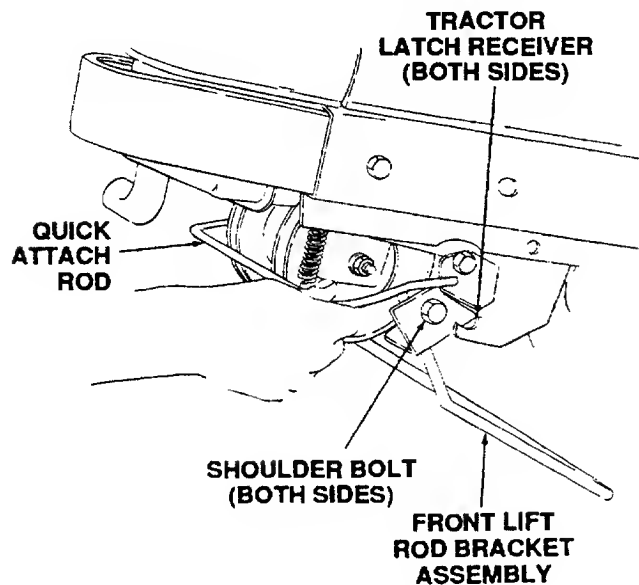
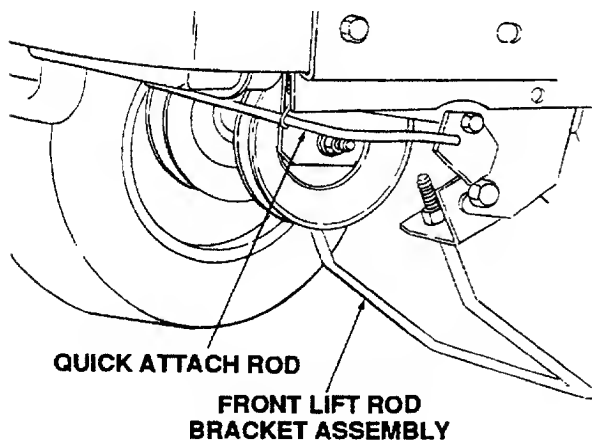

Figure 47
Figure 48
5. Refer to Figure 47 to determine the proper positioning of the front lift rod bracket assembly. Push downward and hold tractor quick-attach rod. Slide the left and right shoulder bolts of the front lift rod bracket assembly rearward into the left and right tractor latch receivers. Release the tractor quick-attach rod so it is held against the tractor frame by the spring, thereby securing the front lift rod bracket assembly in the tractor latch receivers. (Refer to Figure 48.)